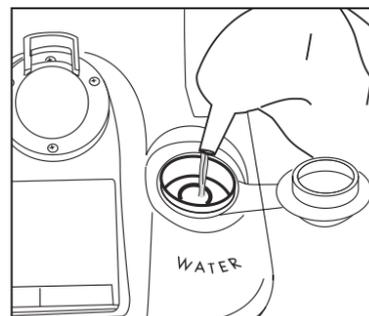

Fig. 3
Do not use demineralised water or water that is too acidic, see condition Application of warranty. Open the filler neck(9) by hand; pour the water into the filler opening. When the tank is completely full, close the cap again. **(Fig. 3)**